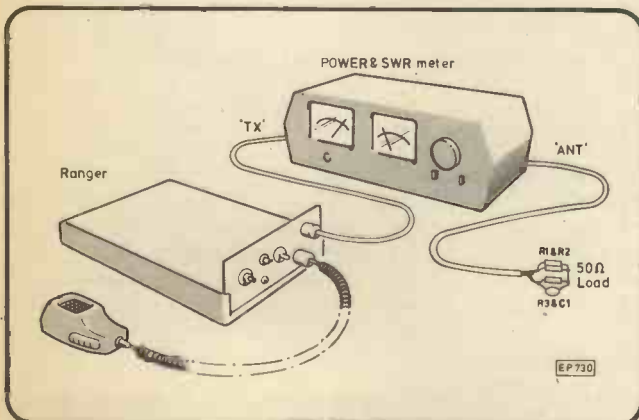

Fig. 4.2. Measurement of r.f. output power
- (ii) An r.f. power meter with an internal load of 50Ω. Alternatively a combined power/SWR meter may be used together with a separate 50Ω load; the 50Ω load/indicator is quite suitable. See Fig. 4.2.